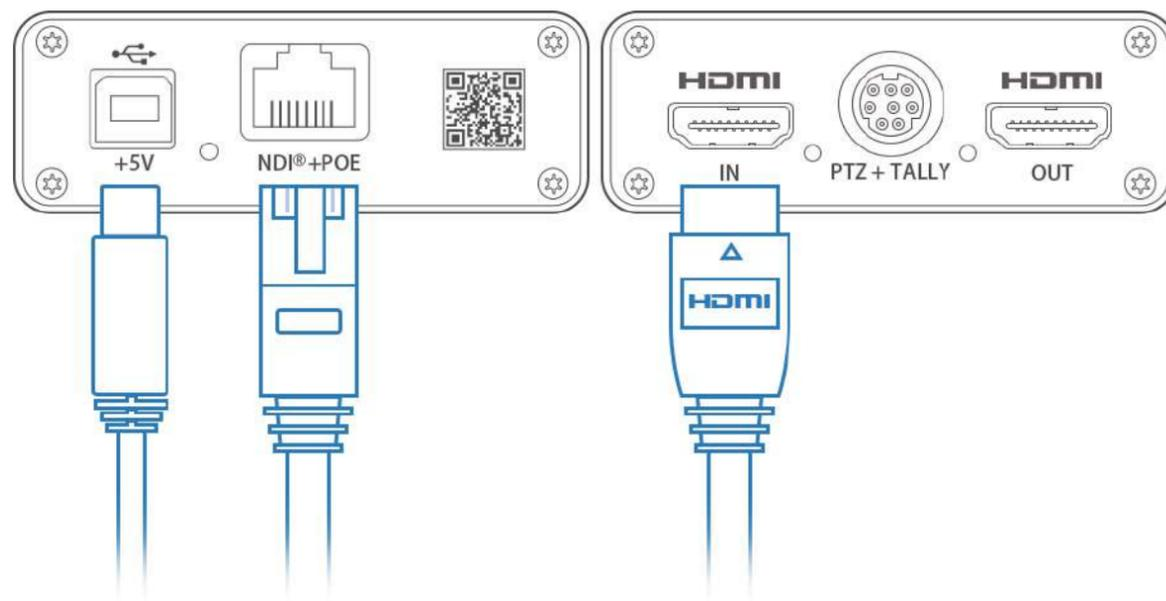

Figure1. Connections
Step 1 Connect your converter via Ethernet and power it up as shown on the left Figure1. Connections.